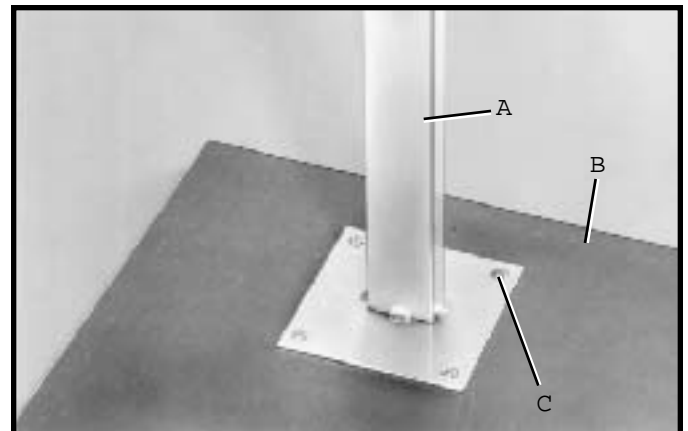

Fig. 46
2. Assemble table leg (A) Fig. 46, to table board (B) using four #8 x 7/8" long wood screws (C) as shown. Assemble remaining table leg to the table in the same manner. CAUTION: DO NOT OVER-TIGHTEN LEG MOUNTING SCREWS. Over-tightening screws in particle board may cause them to strip.